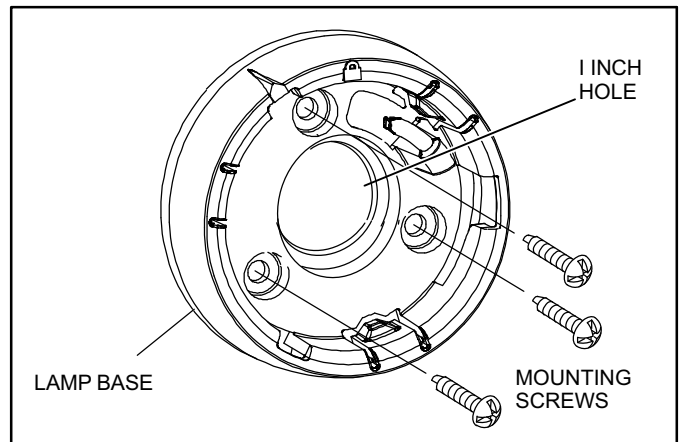

**Figure 6. Install the Shielding Baffle**
2. **Skip this step if no shielding baffle is required.** When using a shielding baffle (X9900), it must be installed in the 1" hole prior to continuing this procedure. See the procedure described in figure 6.
Install the lamp shielding baffle when installing light above a non-UVC resistant component, such as a filter. Adjust the baffle to ensure the component is not subject to direct UVC light. Install the shielding baffle (ordered separately) as shown in figure 6.
Shielding baffle has been installed to protect filter or other non-UVC resistant components (see figure 6).